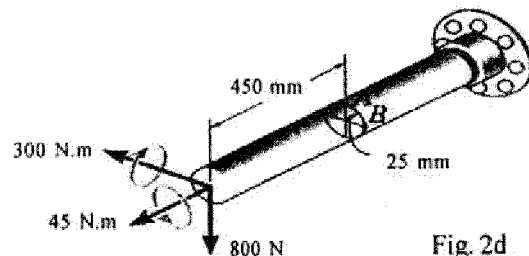

Fig. 2d
- d) The solid shaft is subjected to a torque, bending moment, and shear force as shown in fig.2d. Determine the principal stresses acting at point A.